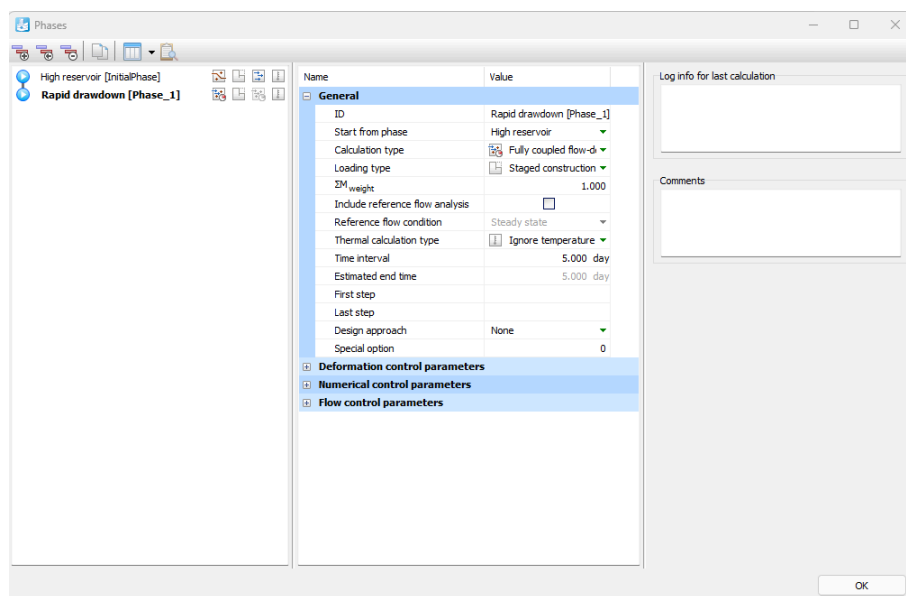

Figure 14–7: Phases window for the Rapid drawdown phase with - fully coupled flow-deformation calculation type
- 8 Click **OK** to close the **Phases** window (see Figure 14–7 \(p. 222\)).
- 9 Due to the global nature of the water levels, if an attribute is assigned to a water level in the model it will affect it in all phases. The water level in this phase has the same geometry with the one previously defined, however it is time dependent and a function needs to be assigned to it. As a result, it is required to create a new water level with the same geometry and different attributes. In the **Model explorer** go to the **Attributes library > Water levels > User water levels** and right-click on FullReservoir_Steady as shown in Figure 14–8 \(p. 223\). Then select the **Duplicate** option in the appearing menu.